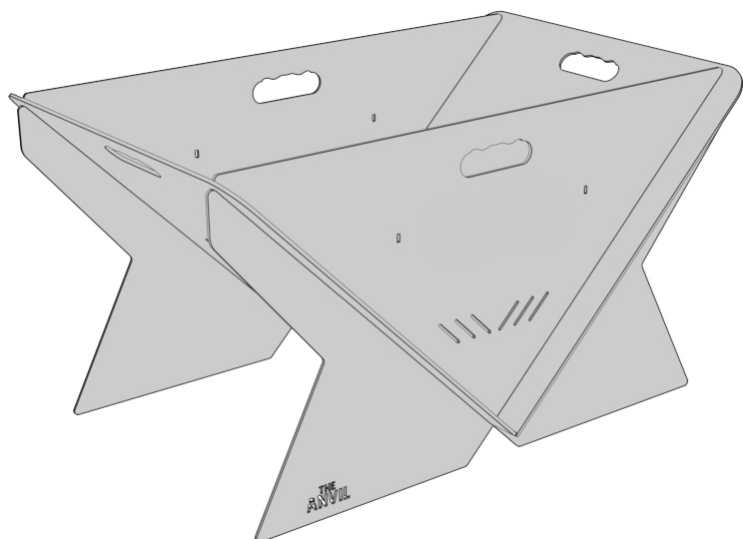

FIGURE 4
Step 4: Repeat steps 2 and 3 for the Key Side plate (S2) as shown in Fig. 4